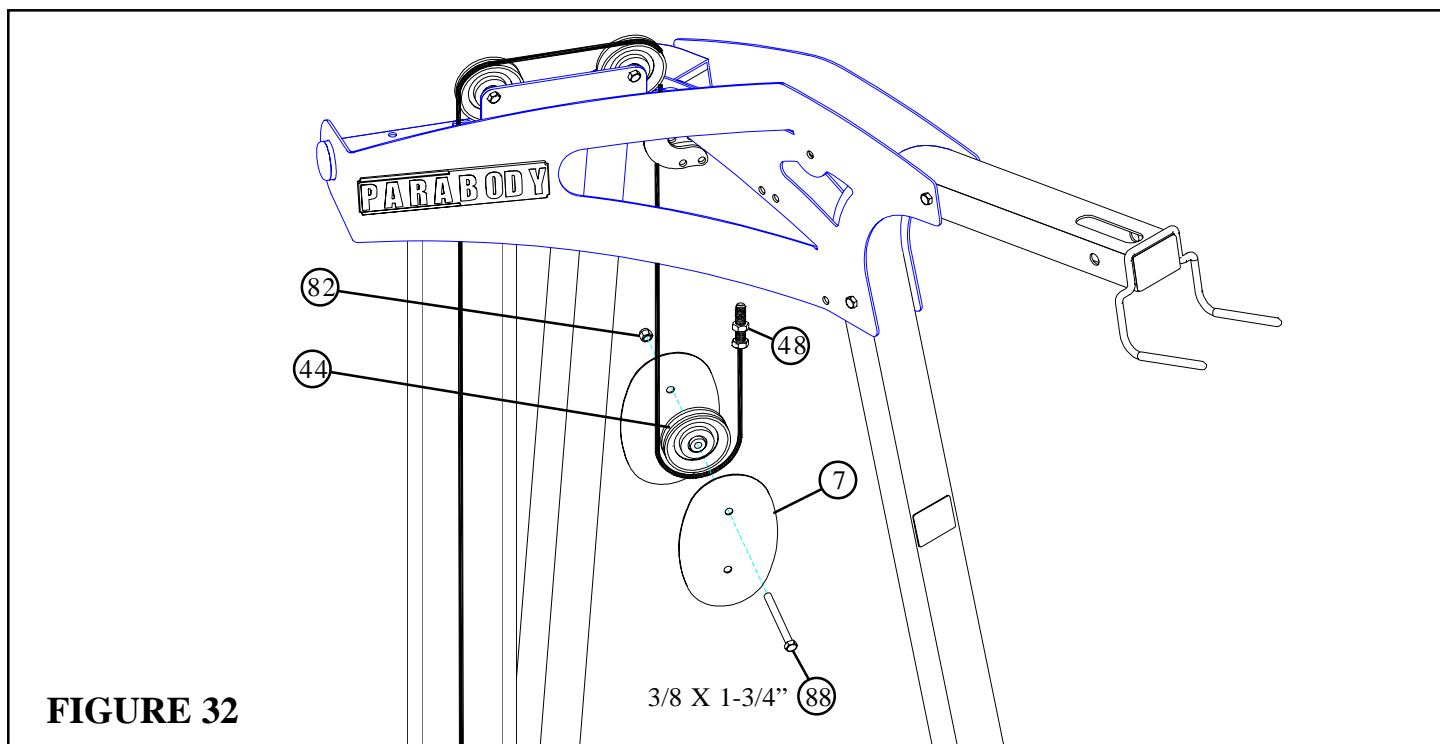

FIGURE 32
- Route the WEIGHT STACK CABLE (48) around one 3-1/2" PULLEY (44) and assemble two PULLEY PLATES (7) to the 3-1/2" PULLEY (44) using one 3/8 X 1-3/4" BOLT (88) and one 3/8" LOCK NUT (82). See FIGURE 32.